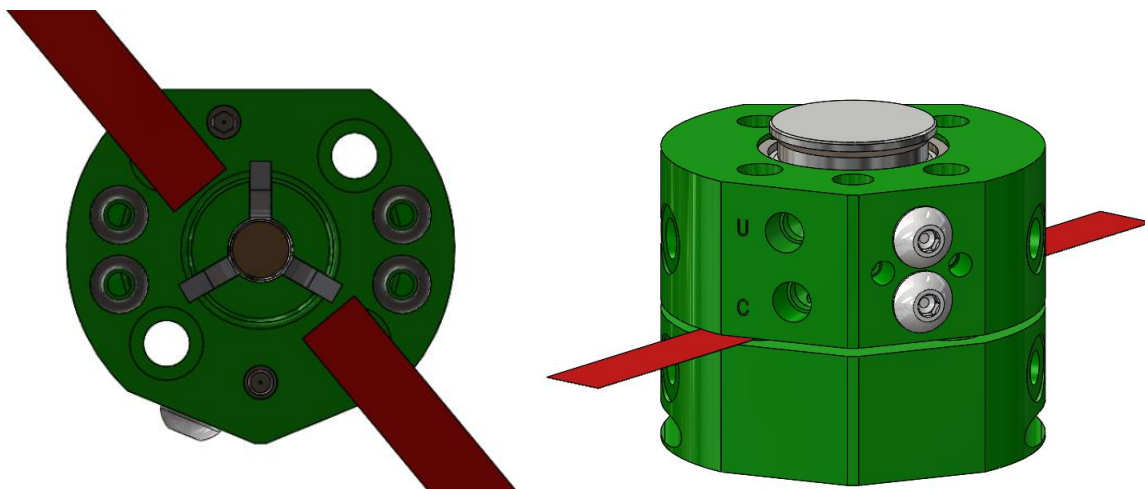

Figure 8.1.3-3. Shim Test of the Cam Locking Mechanism
11. Repeat Steps 6 through 9 for each location shown in Figure 8.1.3-3.